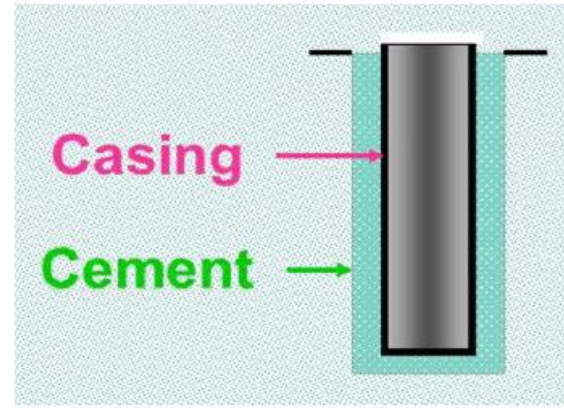

Fig.1
- Casing is strong steel pipe used to prevent the wall of wellbore from caving and other things. (Fig.1)